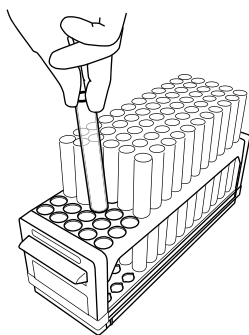

Figure 2-7 Loading test tubes
1. Insert test tubes, vials, or bottles into the rack (Fig. 2-7).